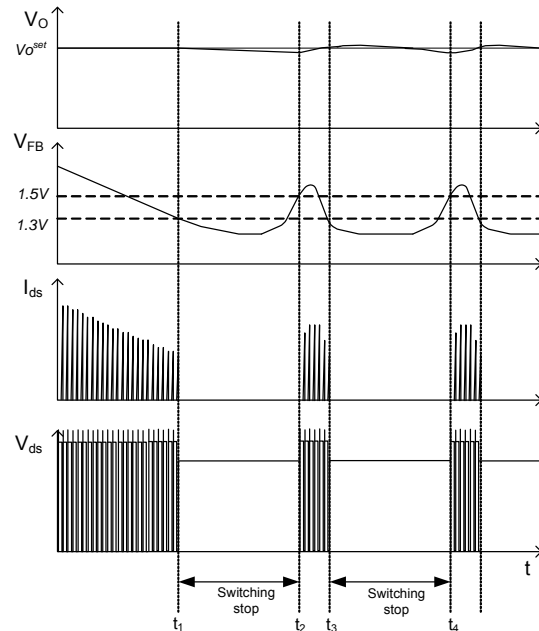

Figure 25. Burst-Mode Operation
6. Burst Operation: To minimize power dissipation in standby mode, the FSFA2100 enters burst-mode operation. As the load decreases, the feedback voltage decreases. As shown in Figure 25, the device automatically enters burst mode when the feedback voltage drops below V_{BL} (1.3 V). At this point, switching stops and the output voltages start to drop at a rate dependent on standby current load. This causes the feedback voltage to rise. Once it passes V_{BH} (1.5 V), switching resumes. The feedback voltage then falls and the process repeats. Burst-mode operation alternately enables and disables switching of the MOSFETs, thereby reducing switching loss in standby mode.